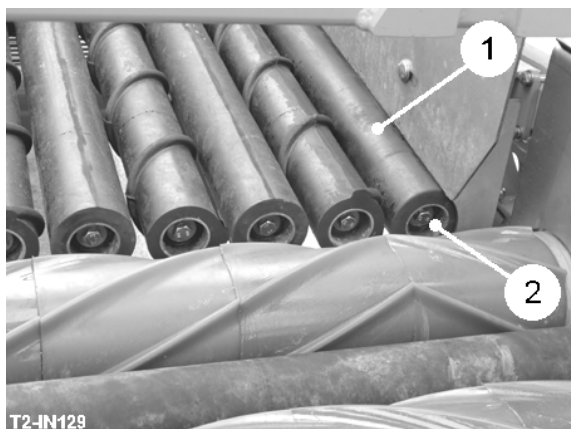

Fig 15
The roller table has 9 pairs of contra-rotating rollers (item 1, fig 15). Two hydraulic motors running in parallel drive the unit and are able to automatically reverse to clear blockages. Table angle, roller speed and reverse pressure settings are adjustable from the touch-screen.
To replace a roller, raise the rear of the table fully and remove the retaining bolt and washer (item 2, fig 15). Slide the roller off the shaft. The rollers are a close fit on the spigot at the gearbox end and may need to be prised off or bumped free. Apply grease to the shaft and slide the new roller onto the shaft ensuring the drive flats in the roller are aligned with the drive flats on the shaft. Refit the roller retaining bolt and washer.